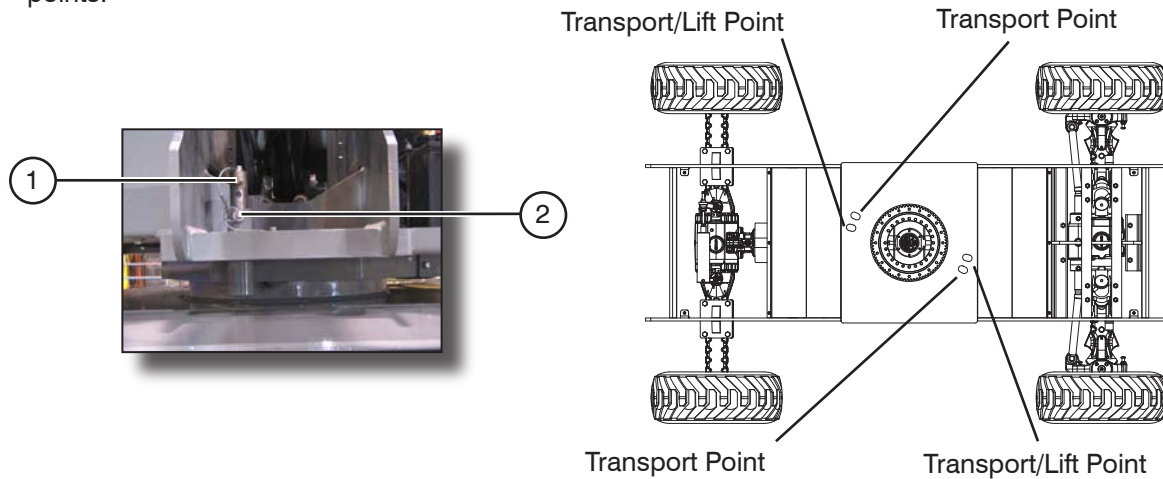

Figure 2-16. Turret Transportation Lock & Locking Points
1. Place boom in stowed position centered between drive wheels. Lock turret using turret transportation locking pin (refer to Section 2.12-2) into one of transport/lift points only (refer to Figure 2-16).